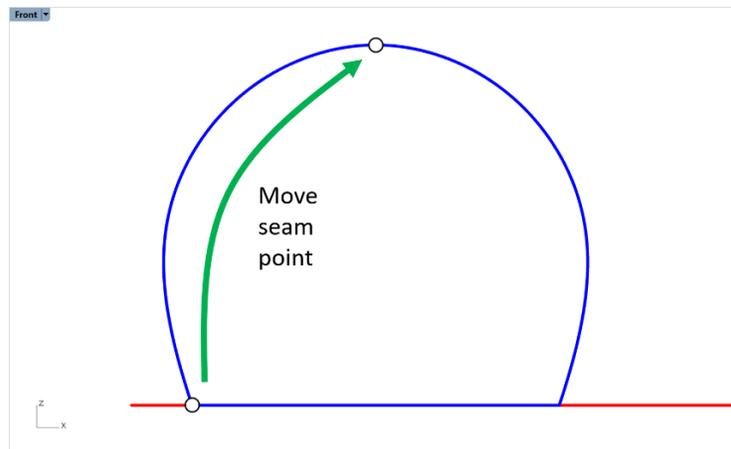
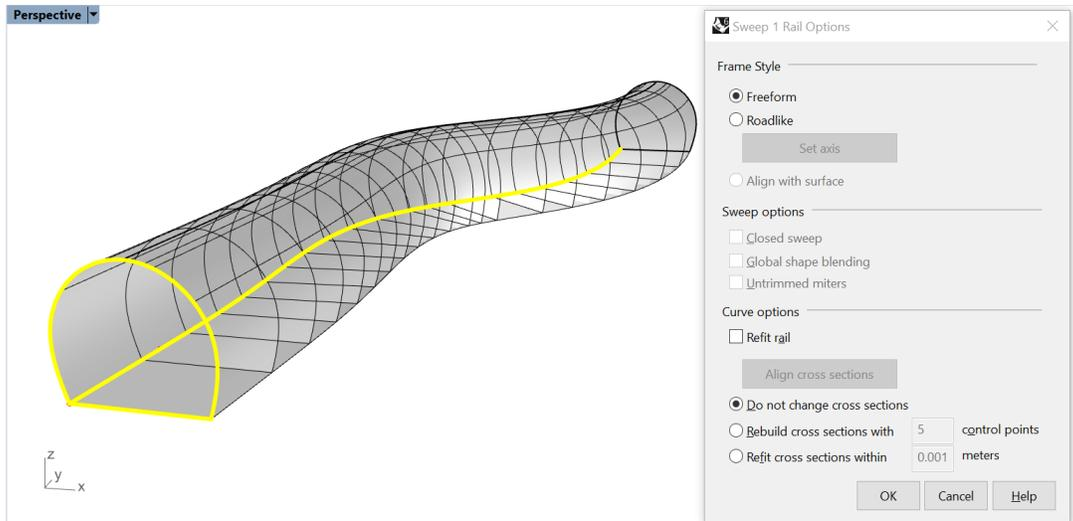

Figure 53: Drag seam point to the top of the tunnel profile.
Figure 54: Creation of tunnel surface by sweeping the profile curve along the direction path.
8. Select the red curve (excavation direction) and type the command `_Sweep1`. For cross-section curves, select the single blue curve (tunnel profile). When offered to *Drag seam point to adjust*, drag it from the bottom-left corner of the tunnel profile to the topmost point of the profile and press **Enter** (maximize *Front* viewport for ease of dragging the seam point; this can be done while the command is active; Figure 53). It is important to move the *seam point* from the corner to create the proper geometry suitable for *BlockRanger*. For other options in the `_Sweep1` command, use those shown in Figure 54.